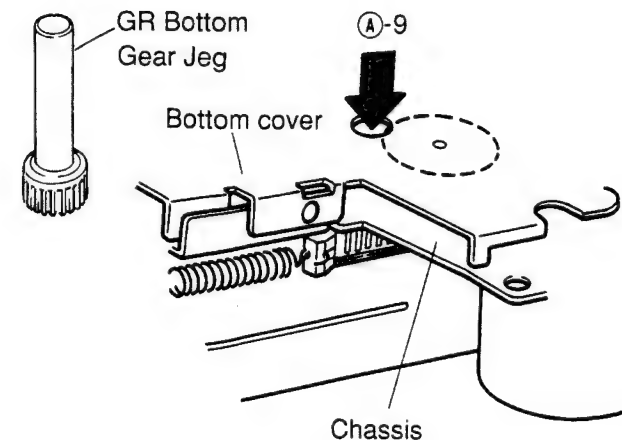

Figure 4
- (12) Since the hooks marked ①-8 will be lifted slightly as shown in Figure 4, insert the jig through the hole ①-9, and fix it turning the jig slightly in the direction ①-11.
(Refer to Figures 4 and 5.)
- (14) Insert the jig into the hole ①-9 as shown in Figure 4 and rotate the eject solenoid counterclockwise about 20 times, pulling it in the direction ①-10 with the finger. Then the eject operation is completed. Instead of operation (14), the eject operation can be performed by mounting the mechanism to the product. (Refer to Figures 4 and 5.)